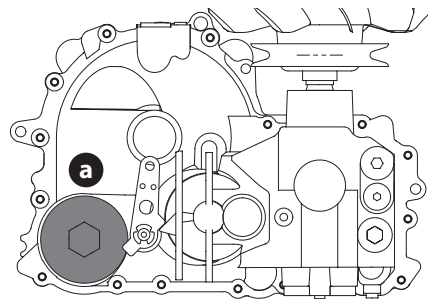

Figure 45
2. Place a suitable container under the oil filter cover (a) on the transmission. Remove the oil filter cover from the transmission to drain the oil (Figure 45). Remove and discard the O-ring.
4. Replace new filter and fit new O-ring onto filter cover (a) (Figure 45).